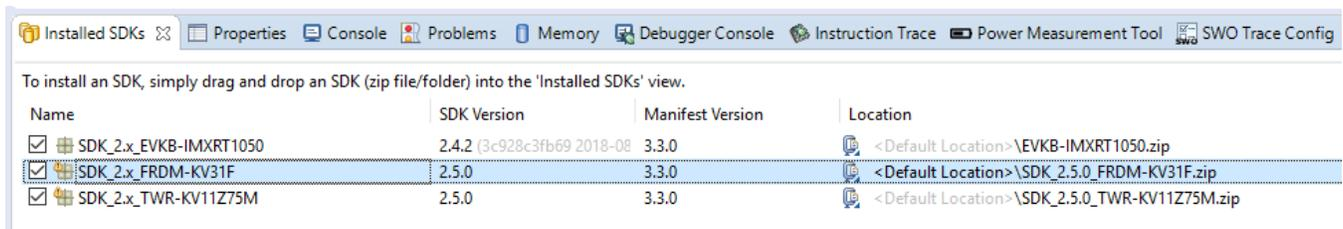

Figure 12. MCUXpresso installed SDKs
- After building, download the SDK archive and open the MCUXpresso IDE. At the bottom of the workspace, there is a panel with several tools. Click the "Installed SDKs" tab (Figure 12) and drag and drop the downloaded file into the "SDKs" field.